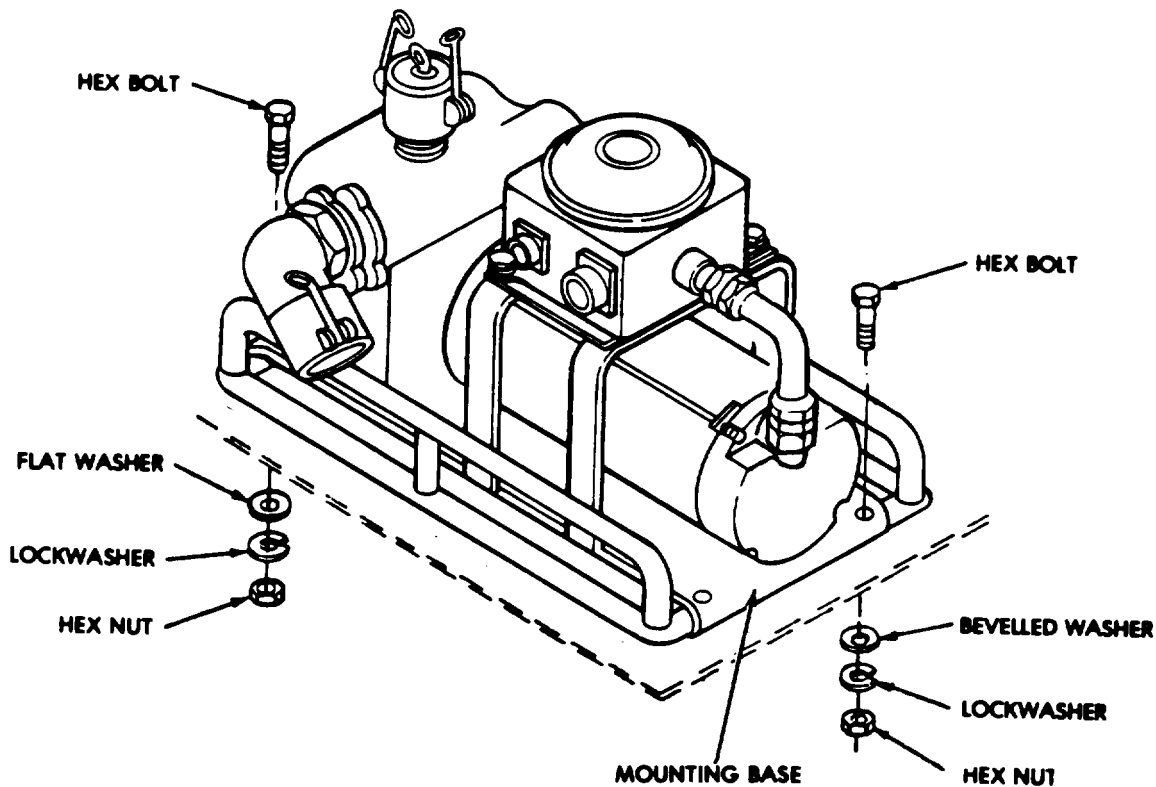

Figure 4-4. Pump and Electric Motor Assembly.
- (6) Remove pump assembly base plate (figure 4-4 or 4-5) from A-frame by removing four screws, four lockwashers, two flatwashers (rear), two bevelled washers (front), and four nuts.
- (7) Remove pump drain plug and drain pump volute.
- (8) Lift pump assembly with base from A-frame.
(1) Install the pump and engine or pump and motor unit on the mounting base (figure 4-4 or 4-5).